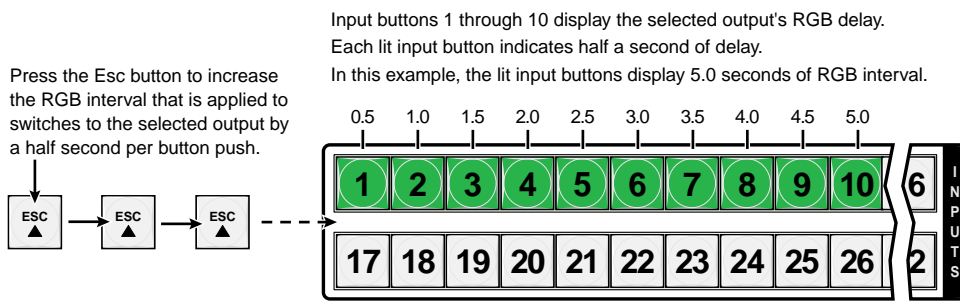

Figure 3-40 — Adjust the RGB delay interval
- Press and release the Esc (▲) button once (figure 3-40) to increase the RGB delay by a half second.
Figure 3-40 show the result of pressing the Esc (▲) button a total of 3 times.